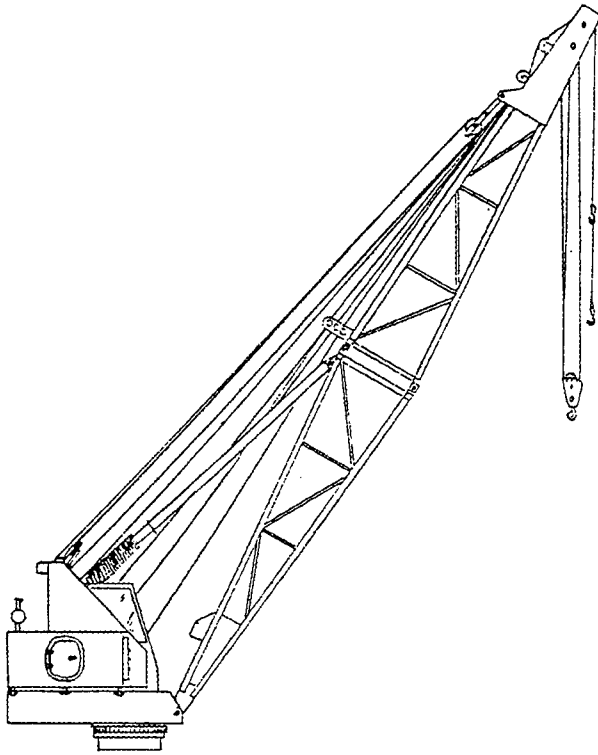

Fig. 10-1 CG-300 Crane & D6 Diesel Hammer
- a. Having previously determined the actual and projected depth of water at the assigned position (AP), you can determine the length of pile needed. Three pieces of information are needed to determine the actual length of pile(s) required: (1) depth of water, (2) type of structure, and (3) the fixity required. If a wood pile needs to be cut, ensure that you cut it squarely with the axis of the pile, so the pile will receive the full force of the hammer blows. Some units sharpen the tips (small end) of the pile to facilitate driving. A very sharp tip should be avoided to prevent the possibility of brooming the point. Metal points are often nailed on the tips to allow the pile to be driven in hard bottom. Steel piles are driven in nearly the same manner as wooden piles.
5. Pile Driving Equipment. All but one vessel has a CG-300 pedestal mounted crane and Delmag D6 diesel-fired hammer (See **Figure 10-1.**) On barges with the CG-300 cranes, leads can be tilted to permit the driving of batter (angled) piles. The CG-300 crane has three leads; one for holding the pile, one for holding the lead and one for starting the hammer.